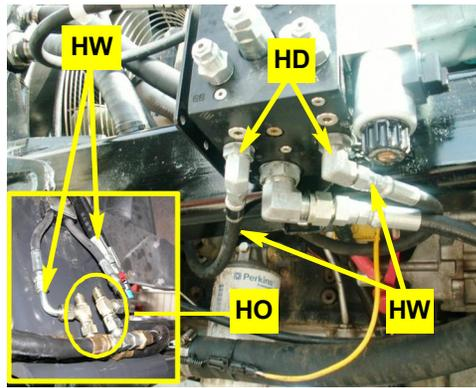

Figure 6b: Steering hoses connected at block and (inset) at run-tees
- b. Connect the straight ends of output steering hoses **HW** to fittings **HD** in the **A** and **B** ports of the hydraulic steering block (Figure 6b) and the elbow ends to the stems of run-tees **HO** (Figure 6b inset).